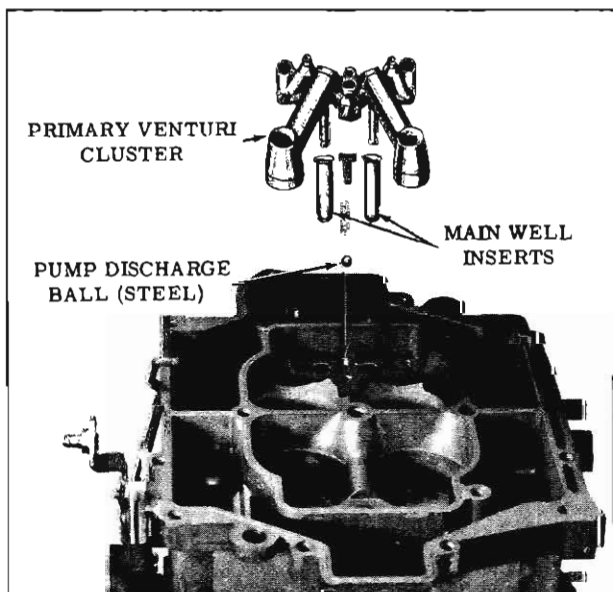

Fig. 4-11 Pump Discharge Spring, Guide and Main Well Inserts
8. Remove the main well inserts. (Fig. 4-11)
15. Remove the small "T" shaped pump discharge spring guide with needle nose pliers, then remove the small spring and steel ball. (Fig. 4-11)